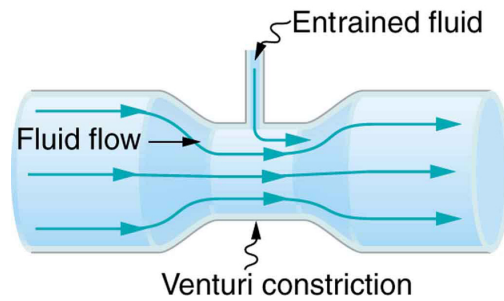

Figure 12.24 A tube with a narrow segment designed to enhance entrainment is called a Venturi. These are very commonly used in carburetors and aspirators.
8. Many entrainment devices have a constriction, called a Venturi, such as shown in **Figure 12.24**. How does this bolster entrainment?